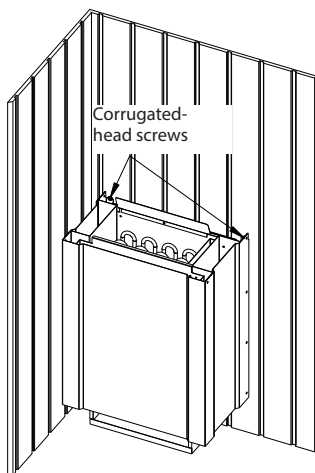
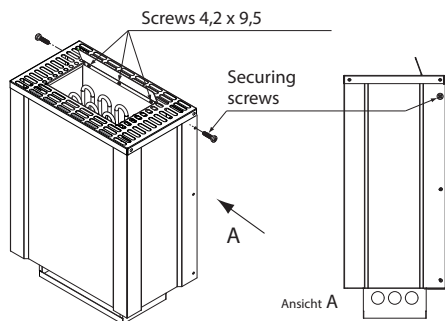

Fig. 6
Fig. 7
7. Secure the heater on the sauna wall behind it using 2 screws through the holes in the rear upper edge of the heater (see fig. 6) or alternatively secure it to the side wall, as shown on fig. 7.